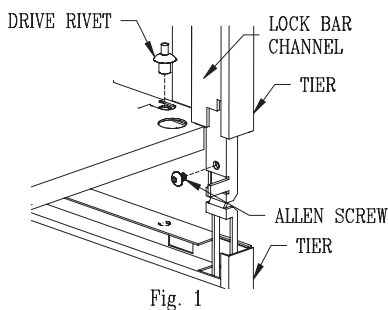
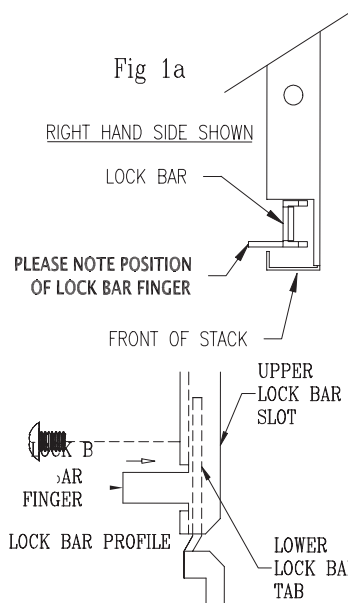
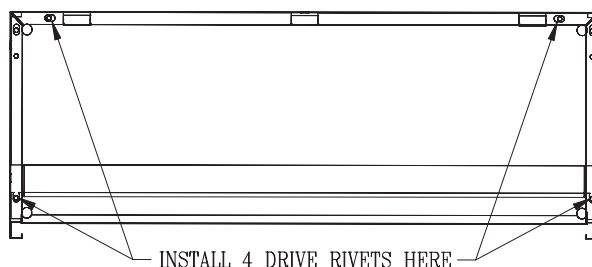

Fig. 1
Fig 1a
Fig. 3
- 2 Insert the two (2) lock bars (see Fig. 1a) into the lock bar channels going from the underside of the tier up. Make sure lock bar finger faces toward front of tier (Fig. 1).
- 4 Align the small holes in the tier bottom with the corresponding holes in the base and insert **FOUR ONLY** drive rivets (pin side up) in the holes using the hole pattern shown in Fig. 3.
- 1 Remove next add-on tier and hardware kit from shipping box. From bottom of tier insert the two (2) lock bars into the lock bar channels as done previously in step A2. Carefully position tier on top of previous tier. Slide tier towards back of unit so the three INTERLOCKING TABS on the bottom of the tier hook under the rear lip of the tier below.
- 2 Lift up the front of the add-on tier and position it so that the lower lock bar tab fits inside the upper lock bar slot (Fig. 1) on both left and right sides. Fasten lock bars together using the Allen screws and Allen wrench provided in the hardware bag (Figs. 1).